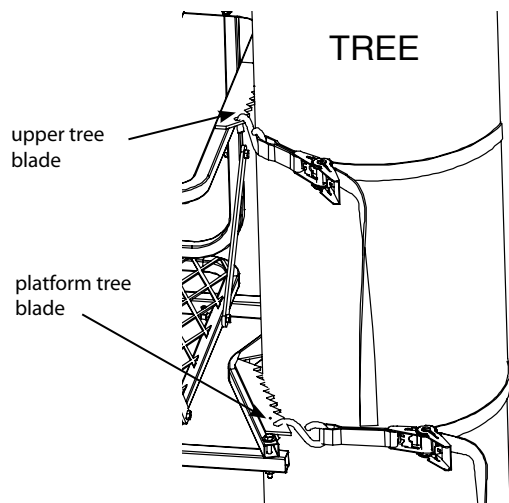

Figure 2
4. Standing on ladder step, lean toward tree with ratchet strap now in hand, Hook "S" hook with long strap through hole provided on tree blade. Feed the long strap through the center (slot) of ratcheting mechanism and back around through tightening lever. **SEE FIGURES 2 AND 3.**
Wrap entire ratchet assembly around tree and hook other "S" hook through opposite upper tree blade hole. Pull tail of long strap until most of the slack is taken out. Be sure entire strap is even and at the same level all around tree. "Ratchet" tight to tree, this will securely attach ladder to tree and prevent movement. **SEE FIGURES 2 AND 4.**
5. Repeat step 4 for second tree blade attachment by placing "S" hooks through holes provided on second tree blade. **SEE FIGURES 2, 3 AND 4.**